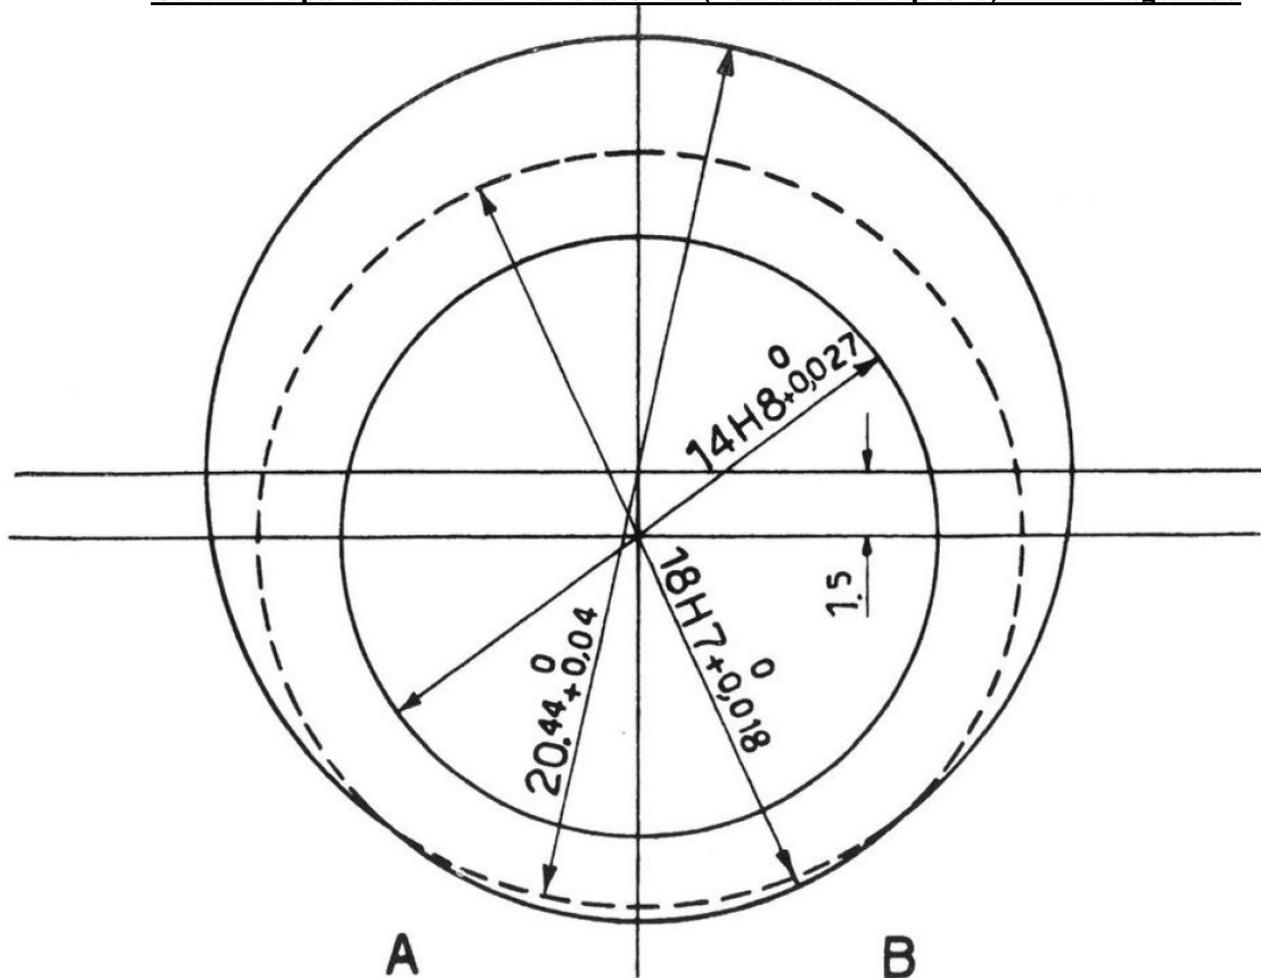

Figure 26- Diagram center of the vanes on the oil pump.
- the seat for sliding of the two oil scavenge vanes. It is not circular but has the shape and the dimensions shown in figure 26.